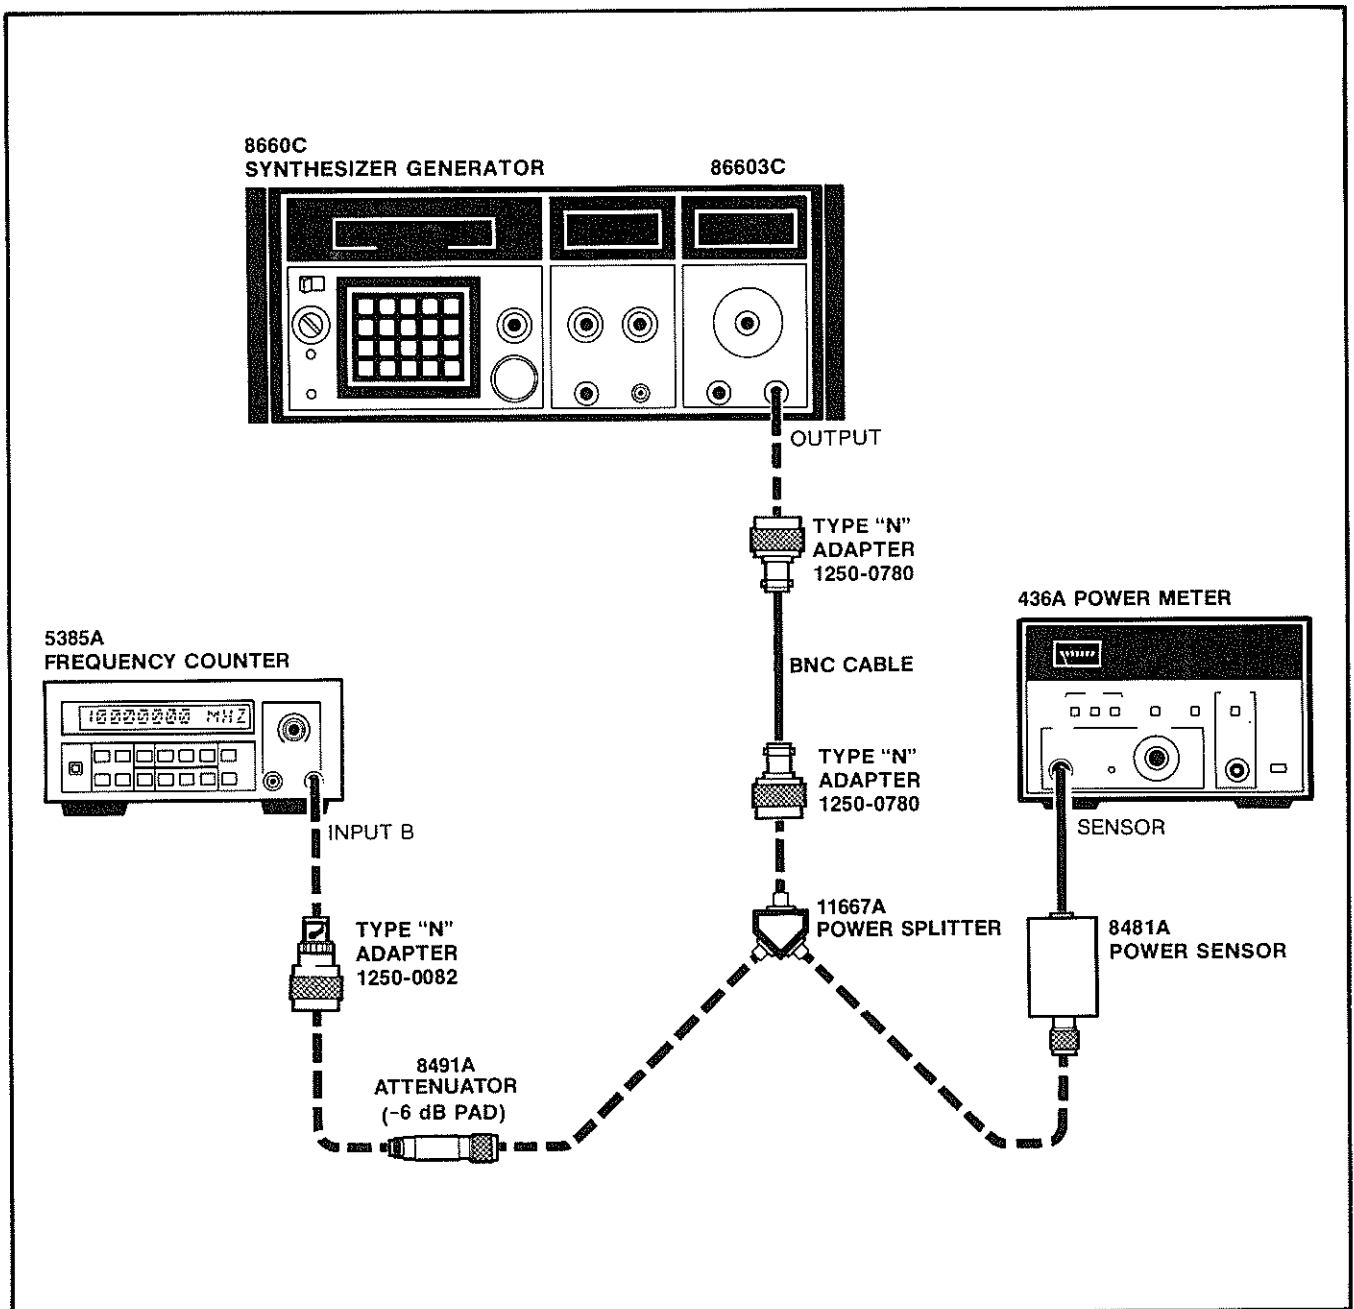

Figure 5-3. 5385A Channel B Sensitivity Adjustment Setup
b. Connect instruments as shown in Figure 5-3.